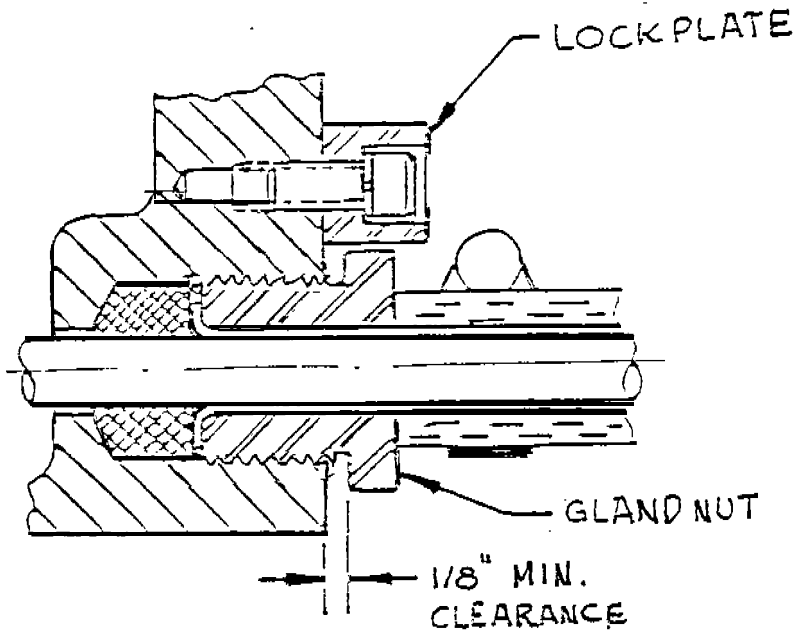
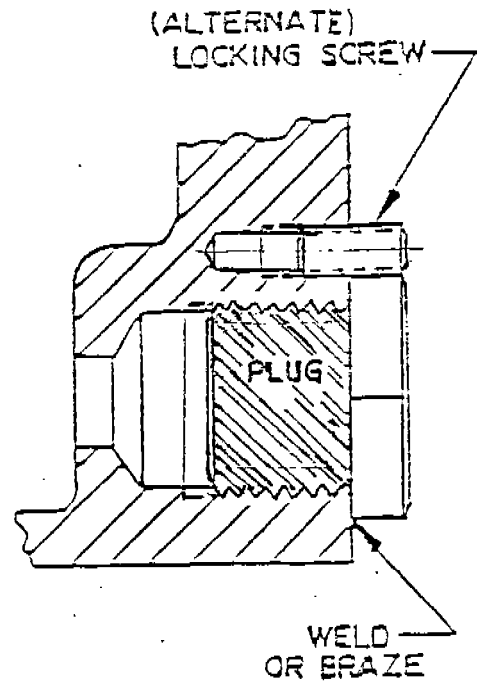

FIG. 1
FIG. 2
- (WEEKLY) 4. () All packing nuts and stuffing boxes are secured from loosening by a locking screw, wire, or other means (Fig. 1),. All unused lead entrances are closed with metal plugs which are secured in place by spot welding, brazing, or equivalent (Fig. 2).
- (WEEKLY) 5. () All threaded covers are secured from loosening by a locking screw, wire or other means (Fig.2).
- (WEEKLY) 11 () All lead entrances (packing glands) are assembled so that the cable jacket penetrates into the enclosure and when tightened, a 1/8 inch clearance remains between the packing nut and the stuffing box (Fig. 2).